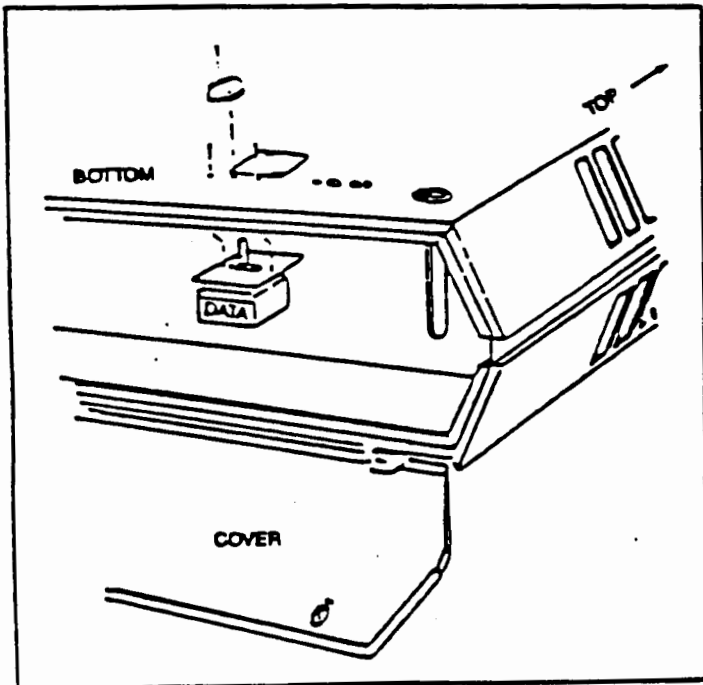

FIGURE 3 - Switch Location on 7-20 KW Unit
DISCONNECT SWITCH KITS WITHOUT TERMINAL SHIELD. REFER TO FIGURES 3 and 4.
7. Attach the "ON-OFF" decal located per Figure 3. Peel off the backing paper, position carefully then press firmly onto the heater cabinet. Note that knob rotation clockwise is "ON" and counterclockwise is "OFF."